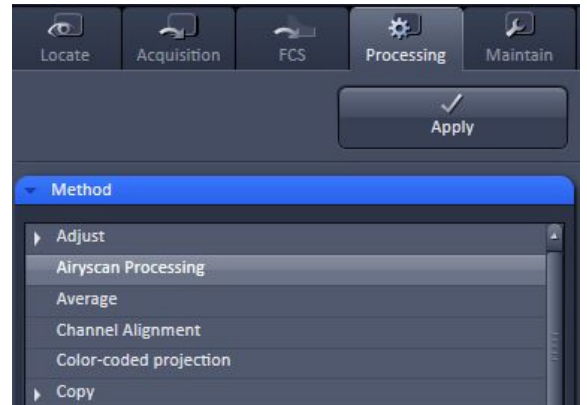

Fig. 392 Processing tab with Method selection list
- To process Airyscan data, choose the **Airyscan Processing** function in the method list (Fig. 392).